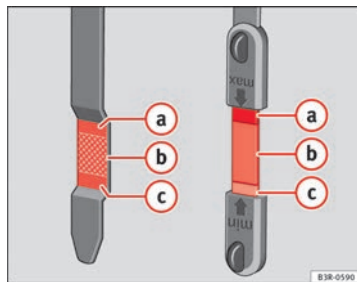

Fig. 169 Markings on oil dipstick
- Then pull it out once more and check the oil level ⇒ Fig. 169. If the oil level is too low, add more engine oil ⇒ page 231.